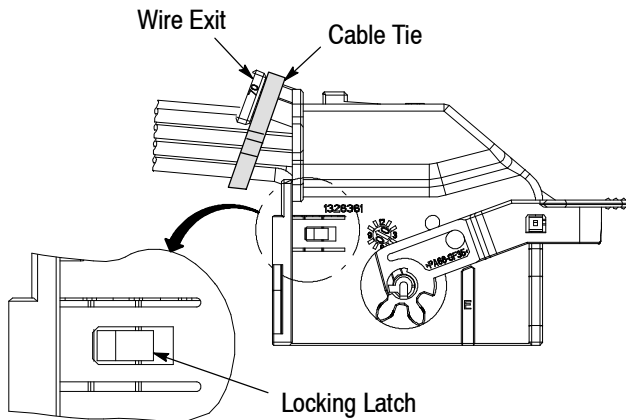

Figure 5
5. Continue pushing the receptacle carrier until the side locking latch (on the shield assembly) drops over the receptacle carriers locking ramp. The latch should return to its un-deflected position and the ramp will be visible in the latch window as shown in Figure 5.
2. The cable tie should be positioned so that the locking tab is located below or to the side of the wire exit. This will prevent the cable tie from interfering with the lever in the mated position. See Figure 5.
2. Release the receptacle carrier from the shield assembly by fully deflecting the side locking latch to release the locking ramp from the window, see Figure 5. When the latch is deflected, the receptacle carrier is free to be removed.